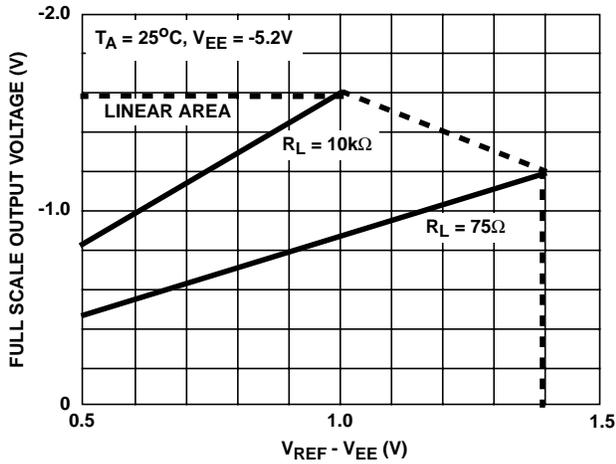

FIGURE 2. $V_{O(FS)}$ RATIO vs $(V_{REF} - V_{EE})$
The Full Scale output voltage is set by the Voltage Reference pin (27). The output voltage performance will vary as shown in Figure 2.